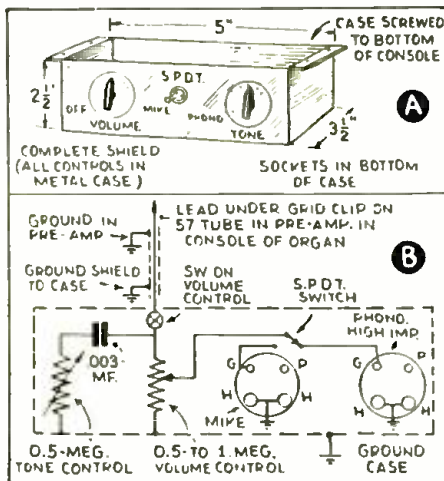

Fig. 2. Puts phono or mike on electric organ.
**SIMPLE CONTROL UNIT.** Figure 2 shows a microphone and phonograph control box. I have about 8 of these units in operation at present on electric organs being used in roller skating rinks here in the middle west. The microphone can be turned on and used to announce skaters, and not affect the playing of the organ, while for afternoon skating, they use the phono pickup.